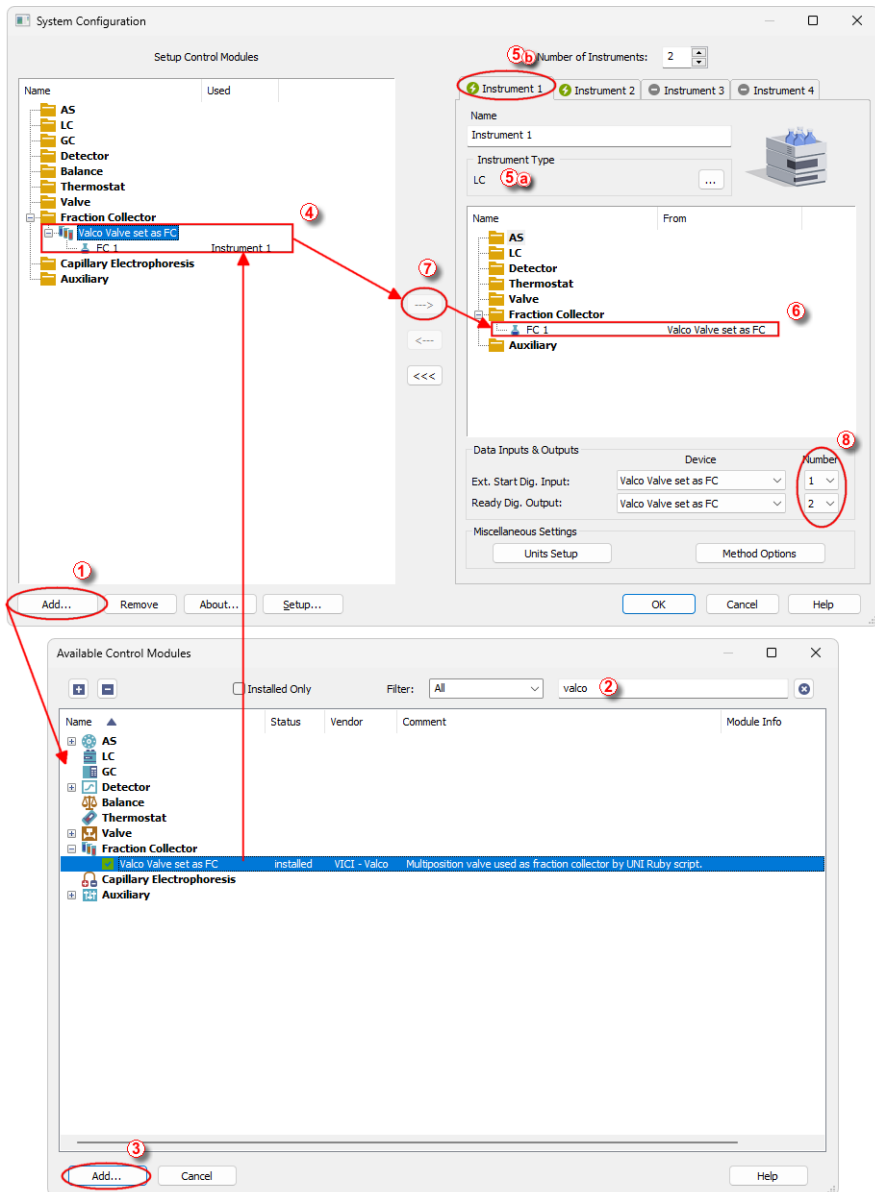

Fig. 3: How to Add FC by Vici Valco
- Press the *Add* button (① on **Fig. 3** on pg. 4.) to invoke the *Available Control Modules* dialog.
- You can specify the search filter (②) to simplify the finding of the driver.
- Select the correct item and press the *Add* (③ on **Fig. 3** on pg. 4.) button. Each device with already created UNI profile should have its own item named accordingly in the *Available Control Modules* dialog.